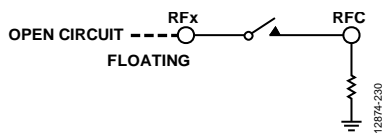
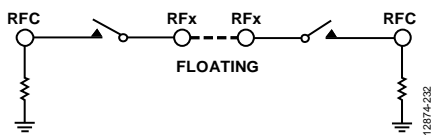
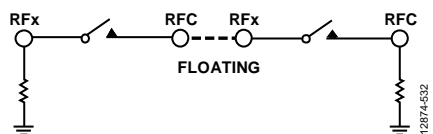

Figure 62. RFx Pins Left Open Circuit
Figure 64. RFx Pins of Two MEMS Switches Directly Connected
Figure 65. RFC Connected to RFx
The ADGM1304 has no internal impedance to ground, and charges can develop on the switch terminals, leading to unreliable switch behavior. To mitigate this behavior, provide a discharge path to all switch nodes. Figure 62 to Figure 65 show examples of cases to avoid where floating nodes can occur when using the switch. Conditions to avoid include the following:
- Leaving the RFx pins open circuit (see Figure 62).
- Connecting the RFx pin of two switches together directly or connecting the RFC pin to the RFx pin (see Figure 64 and Figure 65).